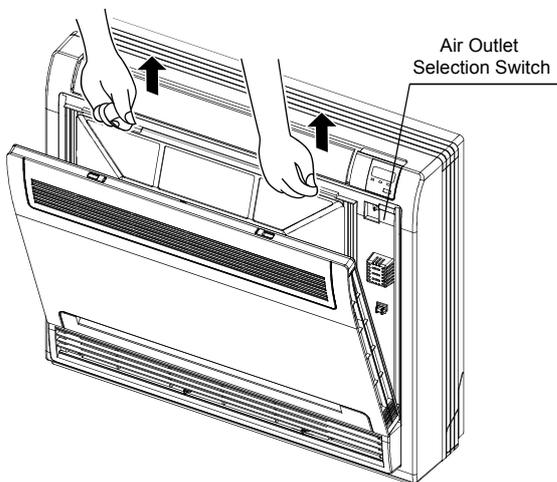

Fig.7-2
- Make air flow selection according to what suits you. (Please refer to Fig. 7-2 about the position of)
Press the claws on the right and left of the air filter down slightly, then pull upward. (Refer to Fig.7-2)